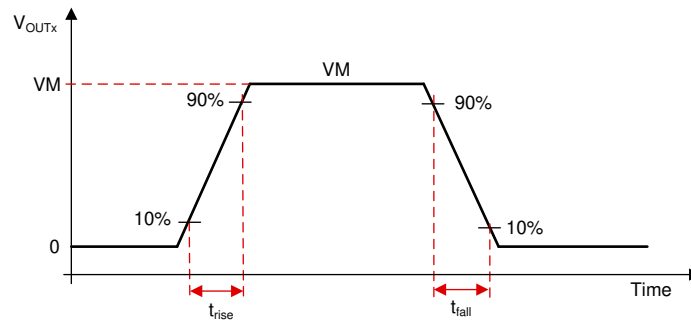

图 41. Slew Rate Timings
The slew rate of each half-bridge can be adjusted by HBX_SR bits in Slew Rate control register (SR_CTRL_1 and SR_CTRL_2). Each half-bridge can be selected to a slew rate of 0.6-V/ μ s or 2.5-V/ μ s. The slew rate is calculated by the rise-time and fall-time of the voltage on OUTx pin as shown in 图 41. The slew rate (SR) is calculate as shown in